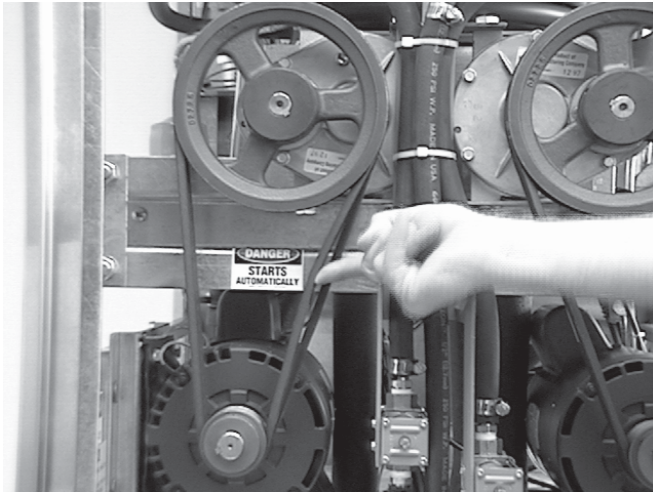

Figure 29. Belt Adjustment
To check belt tension, refer to Figure 29 and follow the steps below:
- B. Press firmly on one belt. Figure 29.